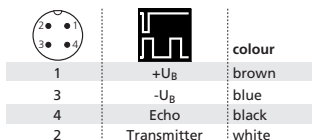

Fig.2: Pin assignment with view onto the sensor plug and colour code of the connection cable
- Connect the sensor to your own control and signal evaluation equipment according to Fig.2.